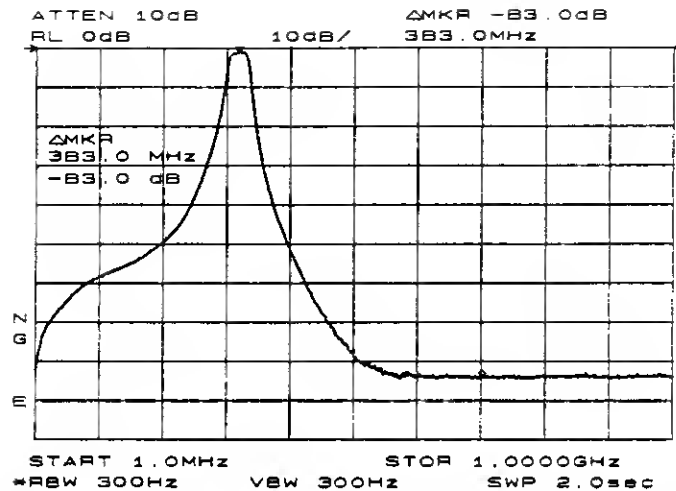

Figure 3-25. Measure the rejection range with delta markers.
7. Measure the range using the delta markers. Press **PEAK SEARCH**, **MARKER DELTA**, and use the knob to position the second marker in the rejection area of the bandpass filter as shown in Figure 3-25.